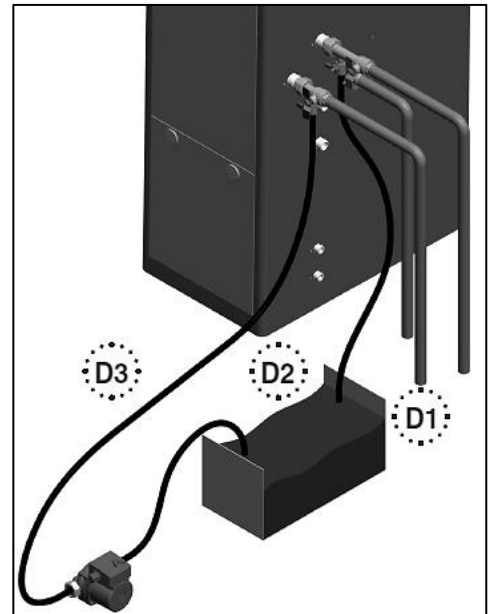

Figure 47 – Hose Connection Detail
3. Connect one hose (D1, Figure 47) to the valve (V3) and place the free end in a bucket. Connect one of the hoses (D3) to the circulation pump outlet and the cold water inlet line to valve V4. Connect the other hose (D2) to the circulation pump inlet and place the free end in the bucket.